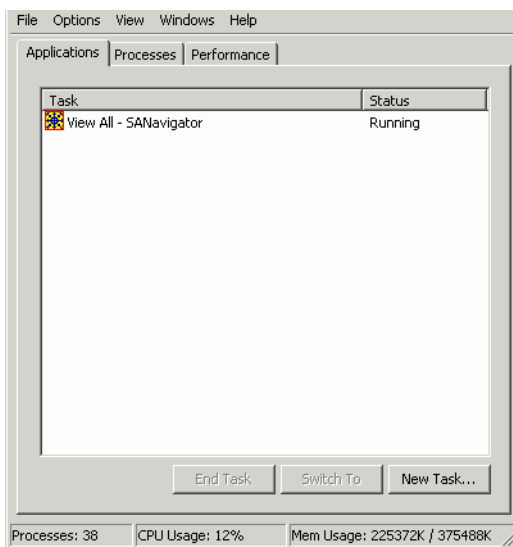

Figure 3-14 Windows Task Manager Dialog Box (Applications Page)
- b. Click *Task Manager*. The *Windows Task Manager* dialog box displays with the *Applications* page open (Figure 3-14).